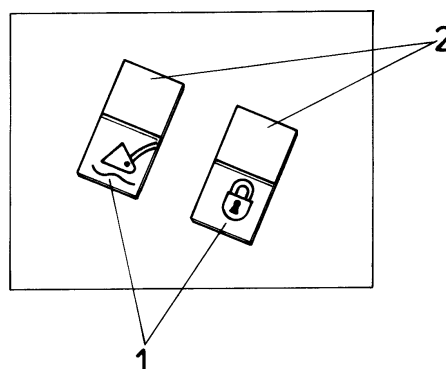

Fig. 4.8. Hydraulic Pilot Control Lever Lock Switch (34) and Pilot Valve "Float" Position Lock Switch
34. HYDRAULIC PILOT CONTROL VALVE LOCK SWITCH (Fig. 4.8)